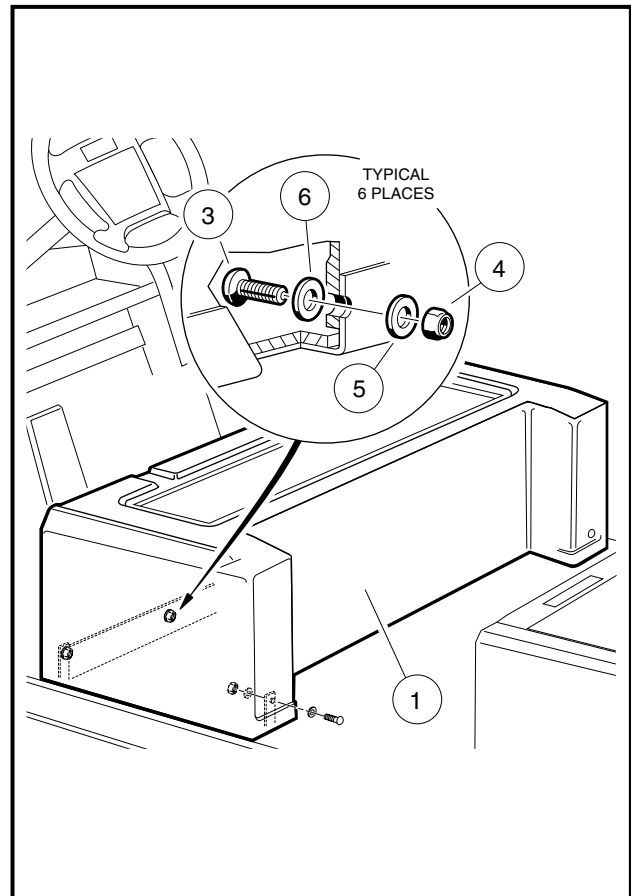
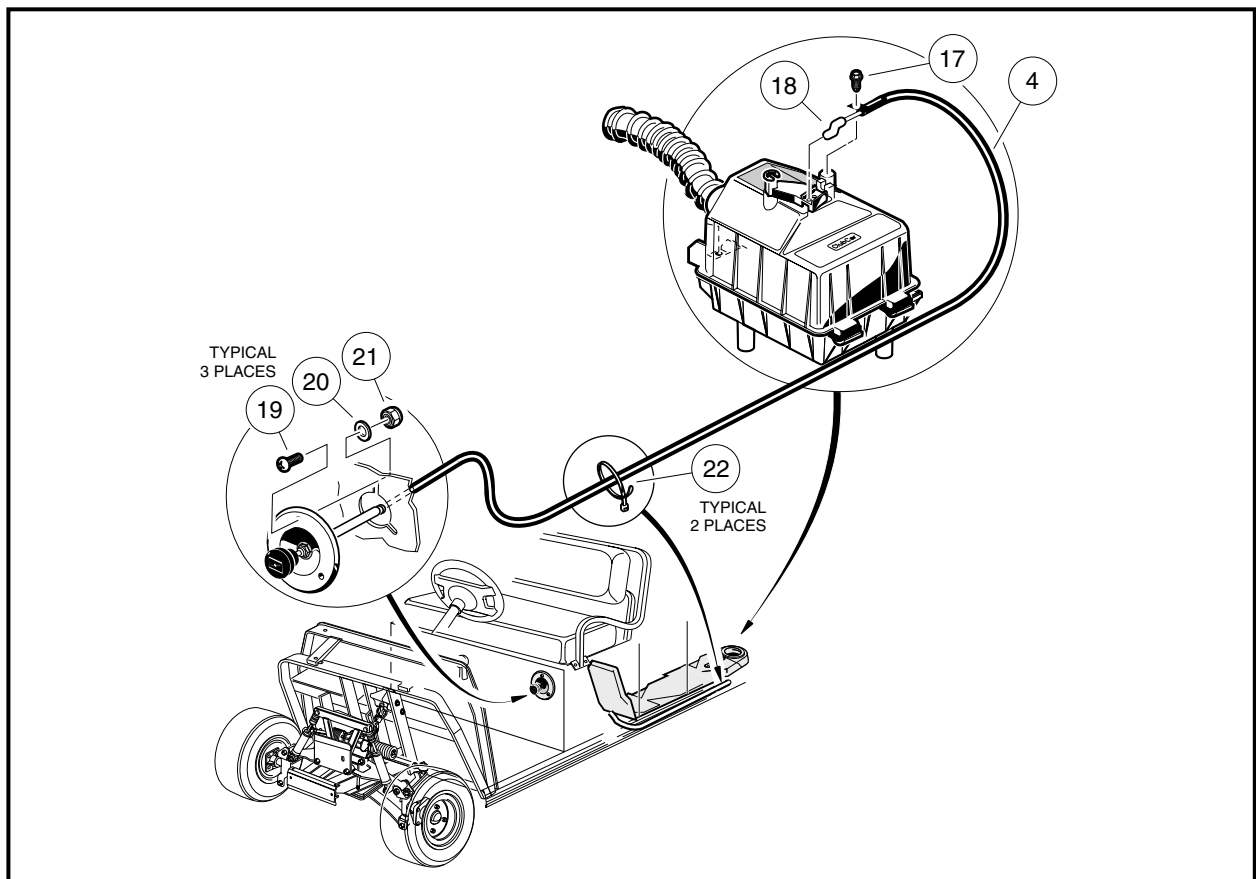

Figure 4-3 Center Body Removal
Figure 4-6 Villager 6 and 8 Choke Cable
14. Remove the screw (17) securing the choke cable to the air box and detach cable end (18) from choke lever (**Figure 4-6, Page 4-7**).
15. Remove the wire ties (22) that secure choke cable to the vehicle frame.
16. Remove three screws (19), nuts (21) and washers (20) from body and remove choke cable assembly from body.
17. Remove the screws (3), nylon cup washers (6), flat washers (5) and lock nuts (4) and lift the center body from the vehicle frame (**Figure 4-3, Page 4-5**).
1. Install in reverse order of removal. Torque screws (3) and lock nuts (4) to 18 in-lb (2.0 N·m) (**Figure 4-3, Page 4-5**).
8. Install three screws (19), washers (20), and lock nuts (21) as shown and tighten to 18 in-lb (2.0 N·m) **(Figure 4-6, Page 4-7)**.
10. Attach choke cable to choke lever on air box. Install screw (17) to secure cable to air box and tighten to 18 in-lb (2.0 N·m) **(Figure 4-6, Page 4-7)**.